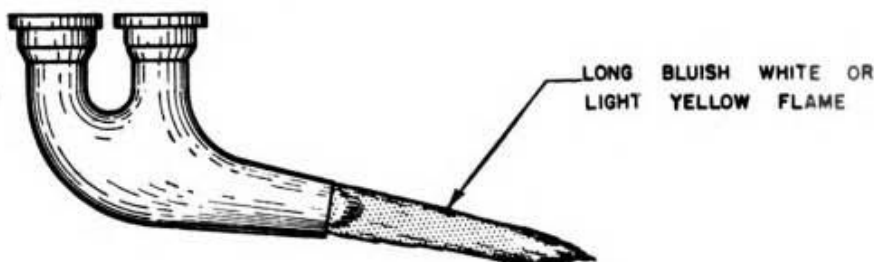

Figure 16. Lean mixture indicated by exhaust flame.
(3) Cruising lean mixtures are used for maximum economy. The ratio is about 16 to 1 and is used when long-range operation, medium power output, and maximum fuel economy are required. Care must be taken to prevent detonation.
(4) Lean mixtures of approximately 17 to 1 ratio and higher will result in decreased power. Detonation and excessive operating temperatures are produced since the speed of the combustion flame is retarded. If the flame is still burning in the combustion chamber when the intake valve opens, "popping back" will occur. Flame color will be predominately yellowish white with a tinge of light blue. (See fig. 16.)